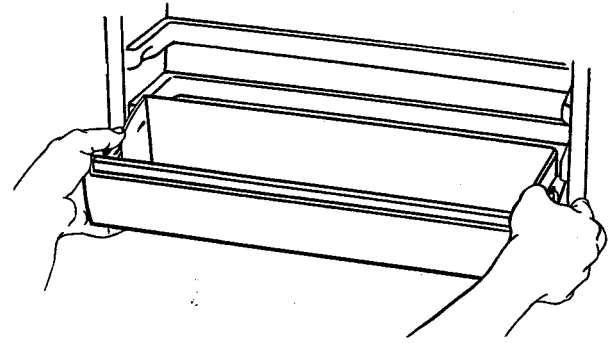

Figure 42
- Remove bucket by holding lock tabs in and pulling bucket straight out. See Figure 42.